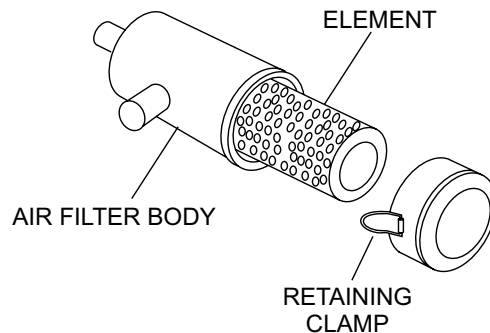

Figure 37. Air Cleaner
1. Release the air cleaner retaining clamps (Figure 37) and remove the air cleaner element.
3. Tap the paper filter element (Figure 37) several times on a hard surface to remove dirt, or blow compressed air [not exceeding 99 psi (686 kPa, 2.1 kgf/cm²)] through the filter element from the inside while turning the element. **NEVER** brush off dirt. Brushing will force dirt into the fibers.